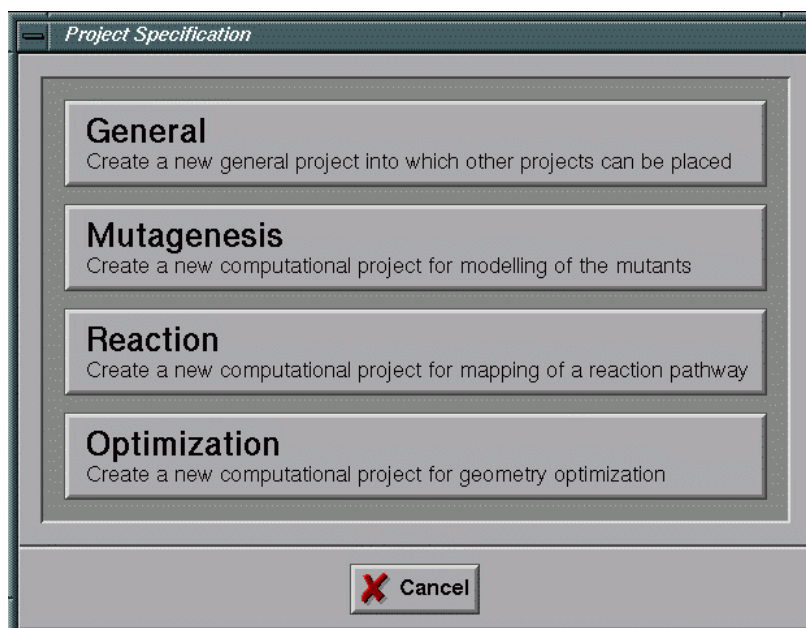
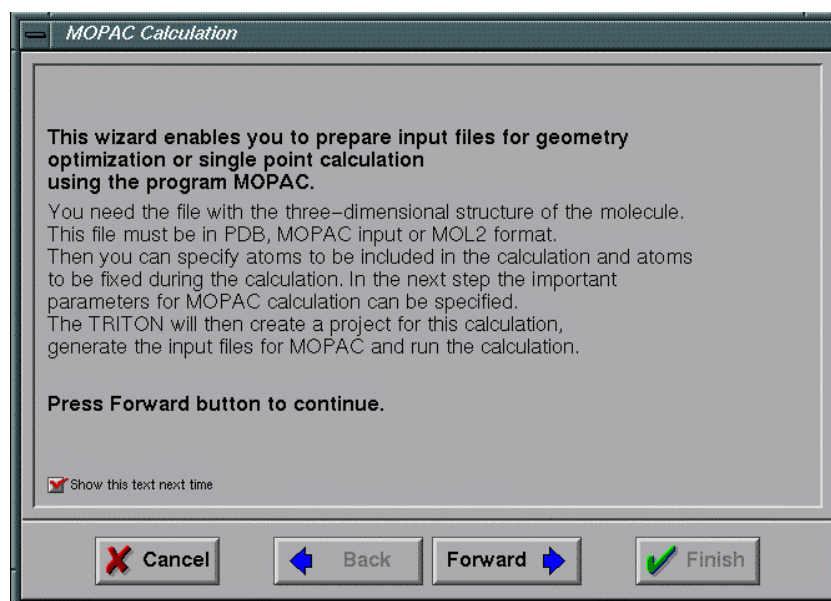

Fig 14.3 Window for specification of projects
Fig 14.4 Window with introduction to optimization project
- 3) Press the *Optimization* button in *Project Specification* window (**Fig 14.3**). This will open the Optimization wizard and the introduction for this type of project will appear (**Fig 14.4**).